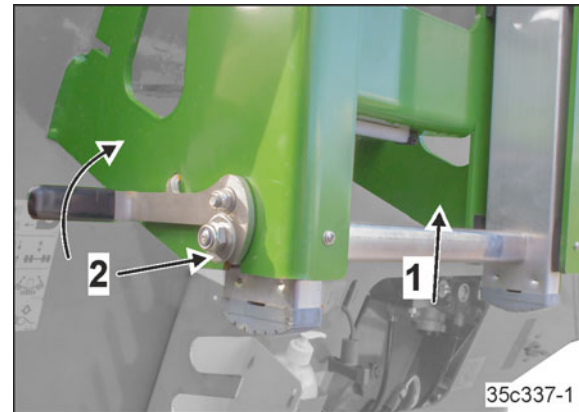

Fig. 262
1. Push the ladder up (Fig. 262/1).
2. Ensure that the spring-loaded locking device engages (Fig. 262/2).